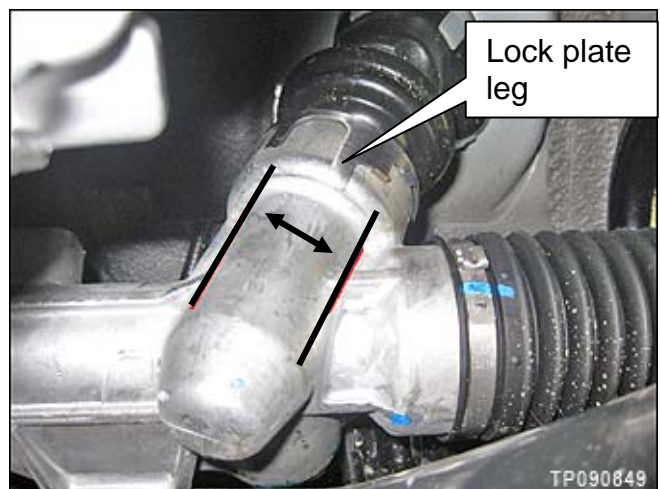

Figure 8
- Make sure the lock plate leg is positioned in the area shown in Figure 8.